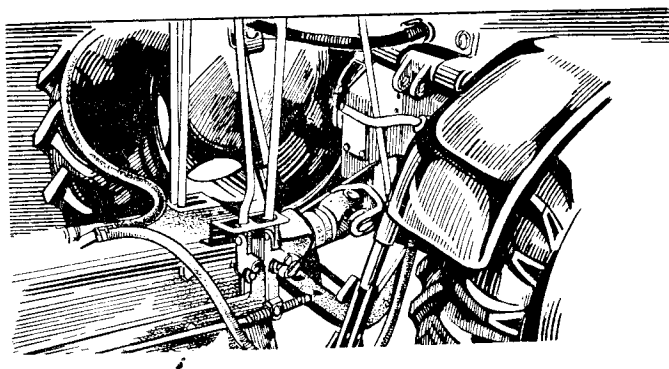

Fig. 13
At the first clutch pedal depressing (I) shift the little lever to position "2" — in this position the P. T. O. shaft is driven through the gear box (Fig. 13).